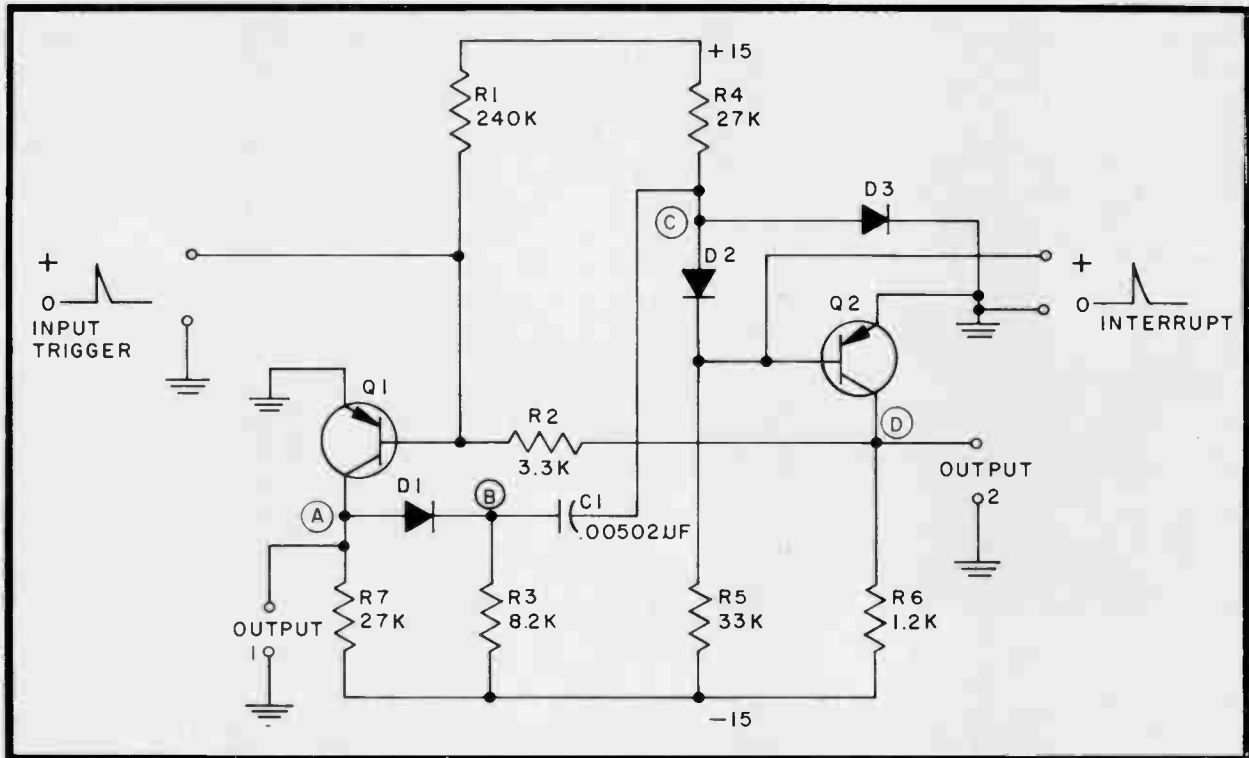

Figure 1. Circuit diagram of the new RC-coupled mono-stable flip-flop. Transistors used are type 2n664. (patent applied for)
The monostable flip-flop shown in Figure 1 can tolerate "spikes" in power supplies up to 90 per cent or more of the supply voltage and the only leakage currents affecting the timing capacitor are the reverse currents of diodes D₁, D₂ and D₃ which usually are much less than one microamp. Also, the timing network has very rapid recovery, being about 2 per cent of the operate time.
Referring to Figure 1, during standby Q₁ is ON and Q₂ is OFF. Since R₄ < R₅ point (C) is above
The common monostable flip-flop is most susceptible to positive-going transients, or spikes, in the negative voltage supply. With the new circuit a positive-going spike in the positive voltage supply only increases the current through D_3 (See Figure 1) and has no effect on Q_2 at all. For such a spike to trigger regeneration it would have to be sufficiently large that it would increase the current through R_1 to a point where it would be approaching the values of the base current of Q_1 . Negative spikes in either the positive or negative power supplies would have to contain sufficient energy to discharge the timing capacitor by an amount approximately equal to that of the forward drop of diode D_2 in order to permit Q_2 to turn ON.